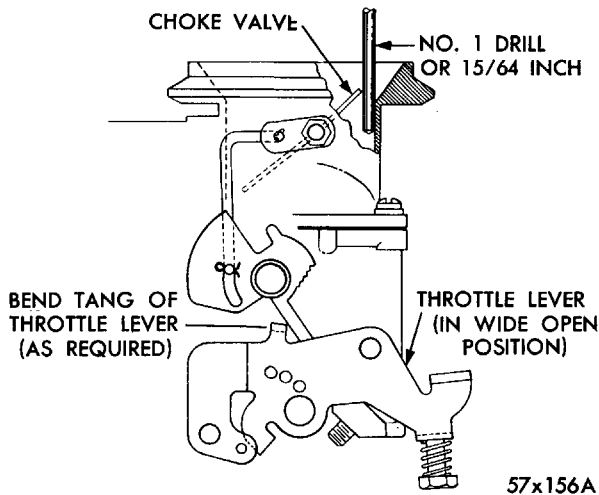

Fig. 25—Unloader Adjustment (wide Open Kick)
(1) To make the unloader adjustment, lightly hold the choke valve closed, then open the throttle valves to wide open position. The choke valve should open sufficiently to allow a No. 1 or $\frac{15}{64}$ inch drill to be inserted between the choke valve and wall of air horn, as shown in Figure 25.